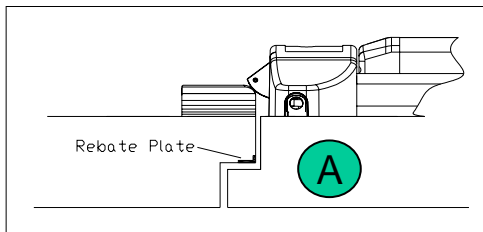
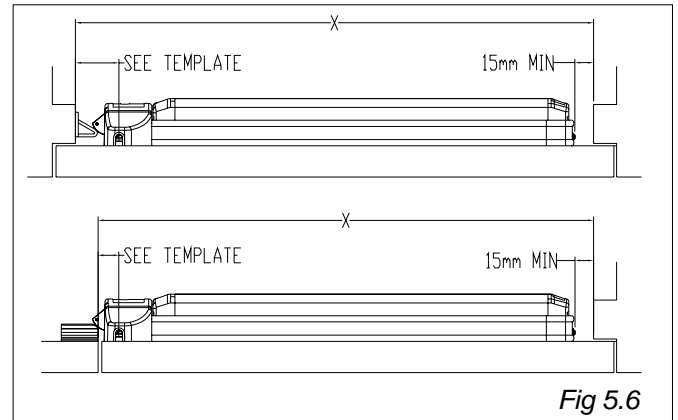

Fig 3.2
Fig 5.6
- 3) Correctly position the template depending upon door/recess type and handing of door, Refer to **Figs 3.2 – 3.5** below and drill four holes using a suitable sized pilot drill for the supplied screws.
- 1) Referring to **Figs 3.2 – 3.5**. With the door closed, position the Striker. Use packers as necessary to obtain a close fit between Latch and Striker. The door should not rattle nor need to be pushed to lock the latch.
- 6) Using Figs 3.2 – 3.5.1 as a guide to fitment, refer to the template and obtain the centre line distance, ie. 23mm, 42mm or 50mm. Also using Fig 5.6 as reference, determine the overall length of the Touchbar.